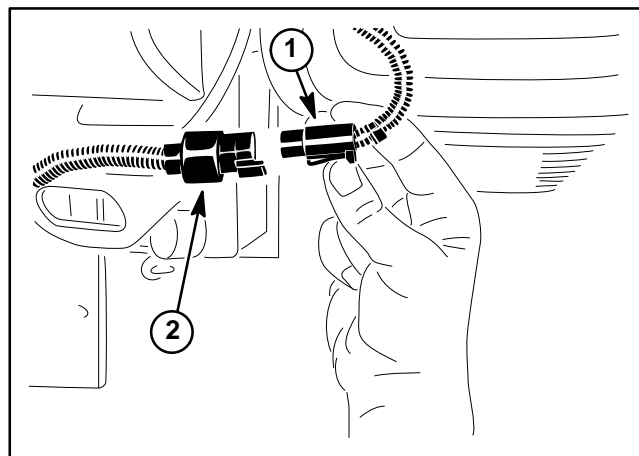

Figure 33
5. Disconnect cutting units from the electrical power supply by separating the cutting unit power disconnect couplers on the left side of the operator seat (Fig. 33). This will prevent unexpected cutting unit operation during hydraulic system start-up.
8. Turn ignition key switch and engage starter for ten (10) seconds to prime hydraulic pumps. Return ignition switch to off and wait one (1) minute to allow starter to cool. Repeat step a second time.
10. Make sure functional control lever is in the **neutral** position. Start engine and run at low idle speed. The charge pump should pick up oil and fill the hydraulic system. If there is no indication of fill in thirty (30) seconds, stop the engine and determine the cause.
A. If the gear pump was replaced or rebuilt, run the engine at low idle speed setting (under no load) for ten (10) minutes.
B. If the piston pump or a wheel motor was replaced or rebuilt, move functional control lever to the transport position and run the traction unit so the wheels turn slowly for ten (10) minutes.
12. Operate the machine (traction, steering and lift circuits) by gradually increasing the work load to full over a ten (10) minute period.
14. Connect the cutting unit power disconnect couplers on the left side of the operator seat (Fig. 33).